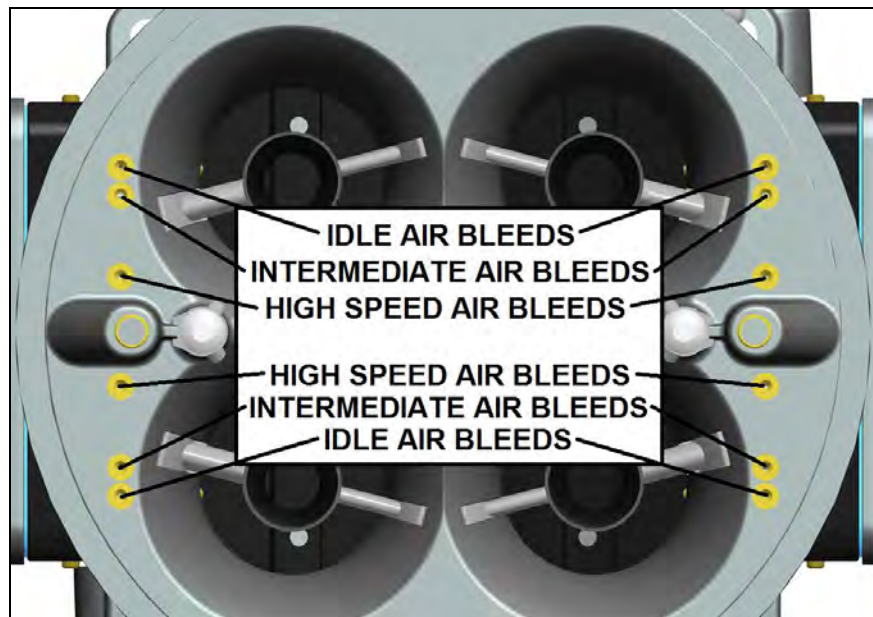

Figure 11
**NOTE:** See Figure 11 for air bleed locations and identification. It is recommended that all jet sizes be documented before any tuning of the air bleeds or main jets is started. Below is a chart for recording the jet and air bleed sizes for your 4500 ULTRA HP DOMINATOR carburetor, as shipped from Holley. Should you adjust the air bleed size or main jet size, this chart will allow the tuner to return the carburetor to the original jetting. Please place this information in a safe place along with any other documentation for your carburetor.